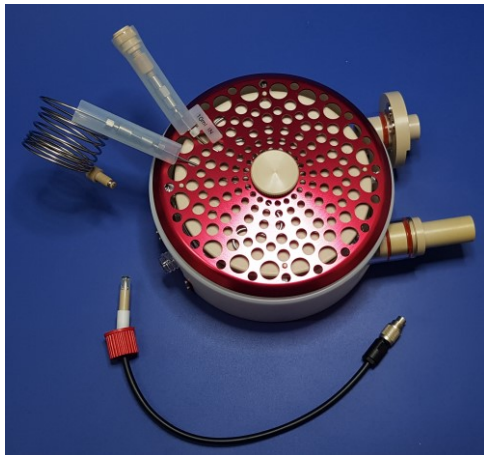
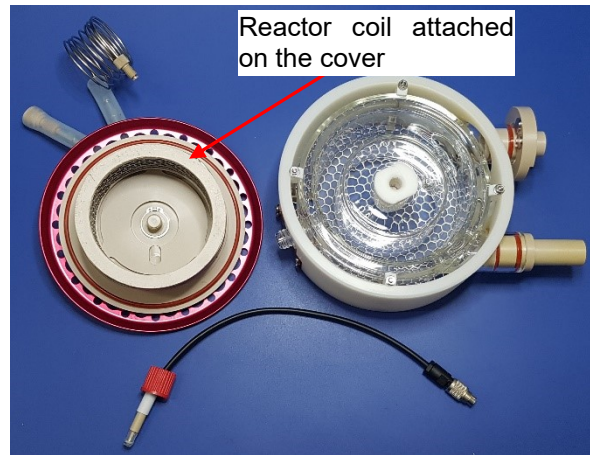

Figure 20 Remove the temperature sensor and unscrew the clamp knob
Figure 21 Remove the reactor coil
2. The reactor coil is attached on the reactor cover. To remove the reactor coil, unscrew the clamp knob at the centre to release the reactor cover. See Figure 20 and Figure 21.